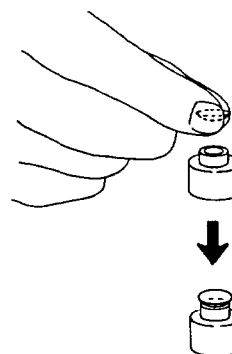

Figure 3-24
- ② Place the hard contact lens on the holder (face the side to be measured toward the instrument) (see Figure 3-24).